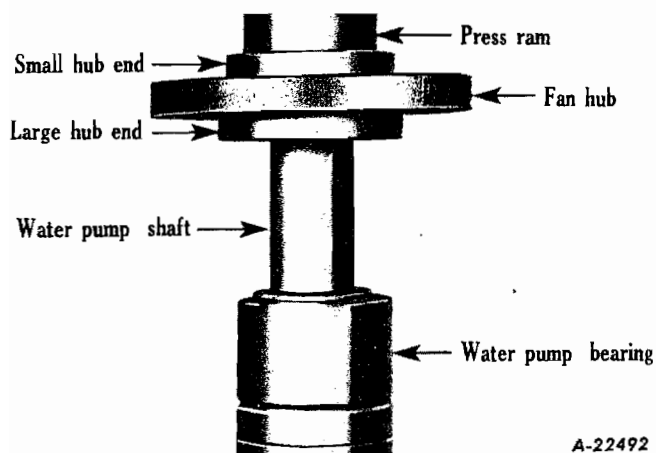

Fig. 37
1. Press fan hub on shaft with the smaller diameter of the hub to the front (Fig. 37).